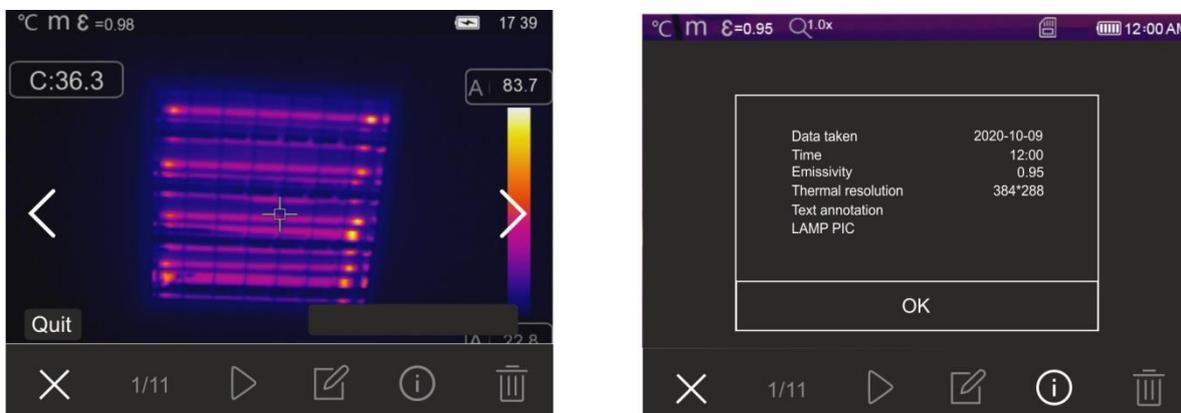

Fig. 47: Recalling on the display the images saved
1. Press key **▶** to enter the gallery of the images and videos saved in the instrument's memory or on the micro SD card. The following screen in Fig. 47 – left side is shown on the display
3. Touch the icon “i” to open the section containing the information about the saved image. The screen in Fig. 47 – right side appears on the display.